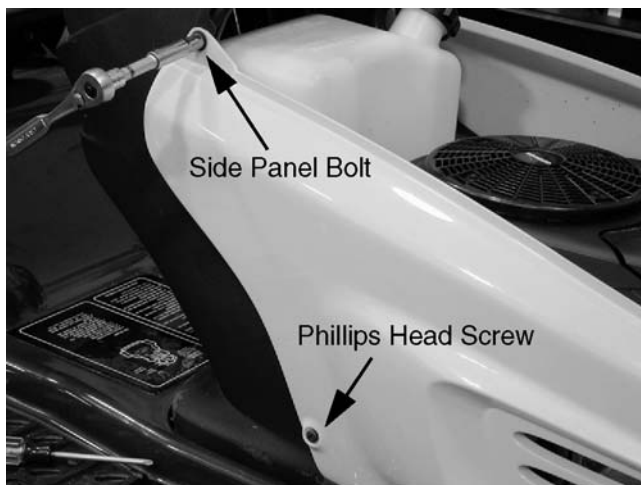

Figure 11-39
5. Remove the bolts at the upper rear corner of each side panel using a 3/8" wrench. See Figure 11-39.